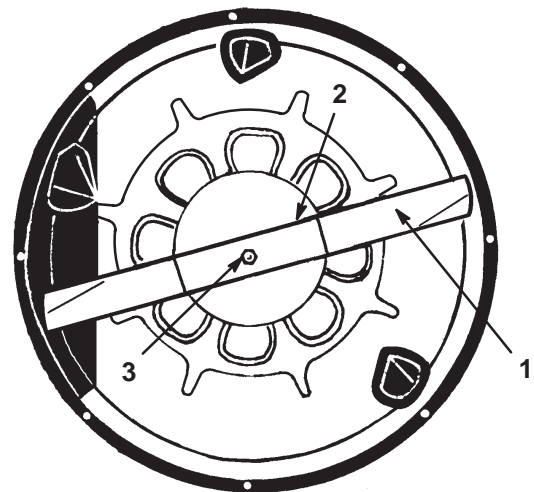

Figure 28
6. Grasp the end of the blade using a rag or thickly padded glove. Then remove the blade bolt, curved washer, blade stiffener, and blade (Fig. 28). A block of wood may be wedged between the blade and the mower to lock the blade when you are removing the bolt.
1. Install the blade, blade stiffener, curved washer, and blade bolt (Fig. 28).